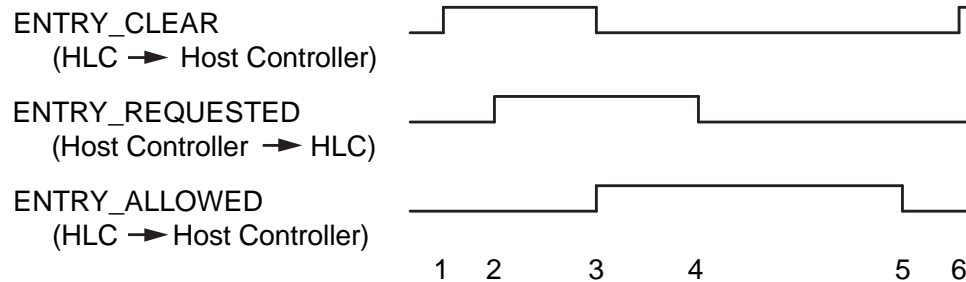

Figure 3-28: Entry Handshake Timing
1. Whenever the entry area is clear the high-level controller sets the **ENTRY_CLEAR** signal High (see Figure 3-28).